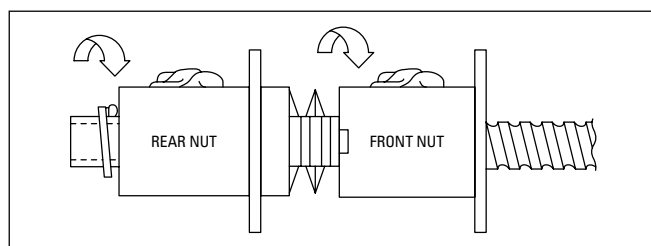

Figure 12. Mounting rear nut.
**NOTE:** Normally the rear nut for preloading is shipped fully assembled from the factory. If the spring package is not assembled to the rear nut as shown in Figure 12, review Preload Components Assembly for assembly instructions.